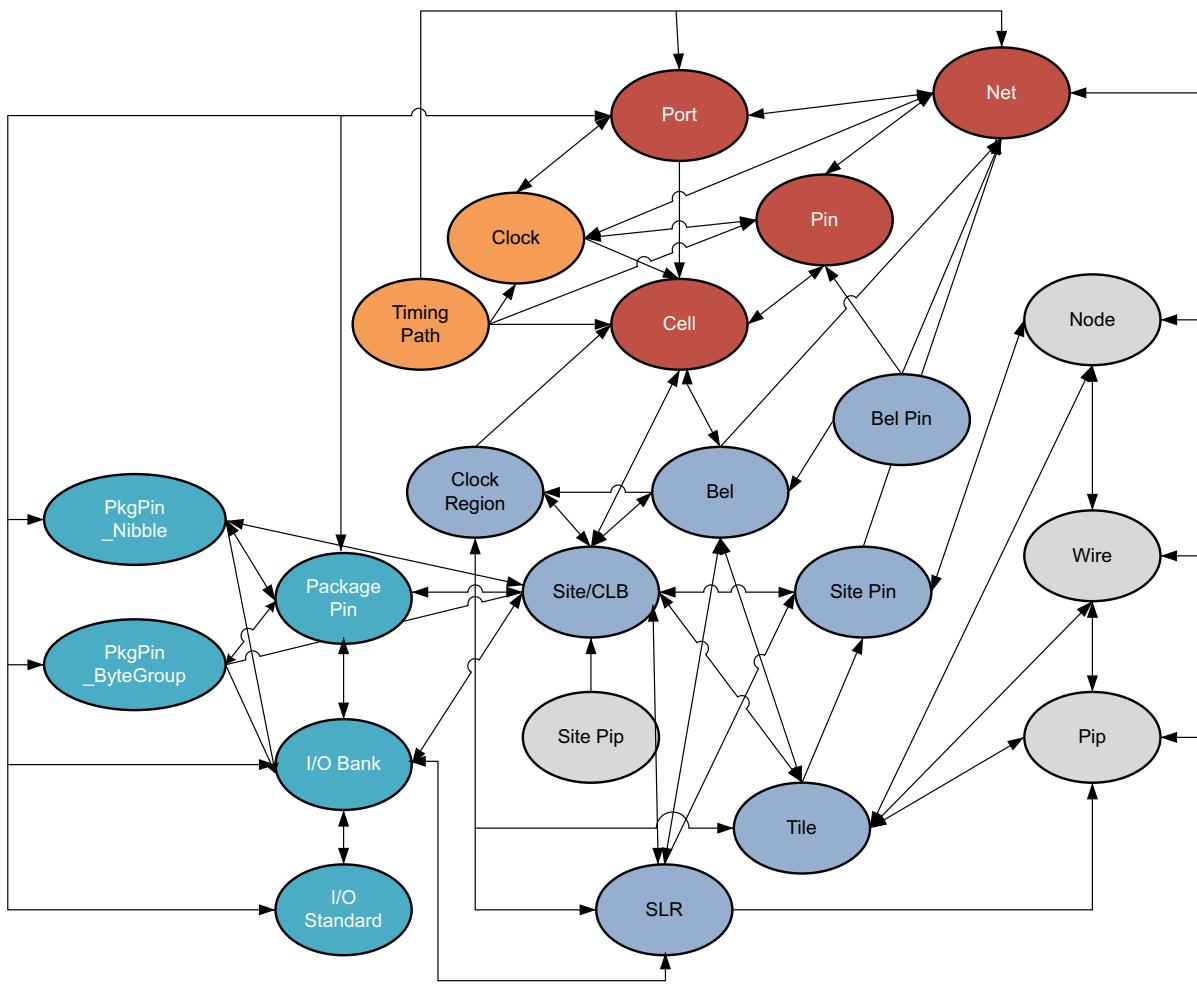

Figure 1-1: Netlist and Device Objects
Vivado Design Suite supports a number of first class objects in the in-memory design database. These objects represent the cells, nets, and ports of the logical design, the device resources of the target Xilinx device, or platform board, as well as objects used by specific features of the Vivado Design Suite such as block design objects used by IP integrator, or hardware objects used by the Vivado hardware manager. The Vivado Design Suite maps the netlist objects of the logical design onto the device objects of the target device or board. Figure 1-1, page 10 illustrates the relationships between some of the Vivado tools first class objects. This figure is representative, and is not intended to depict all Vivado tools first class objects, or their relationships.
The netlist objects, displayed at the top of Figure 1-1, are part of the logical design for programming into the FPGA. Device objects, shown in the lower half of the figure, are part of the actual physical device, and include area resources such as clock regions, tiles, sites or
- A single-ended arrow reflects a relationship that can only be queried in the direction of the arrow. For instance, in Figure 1-1, you can see that you can query the bels located in specific clock regions (`get_bels -of_objects [get_clock_regions]`), but you cannot get clock regions associated with specific bels.